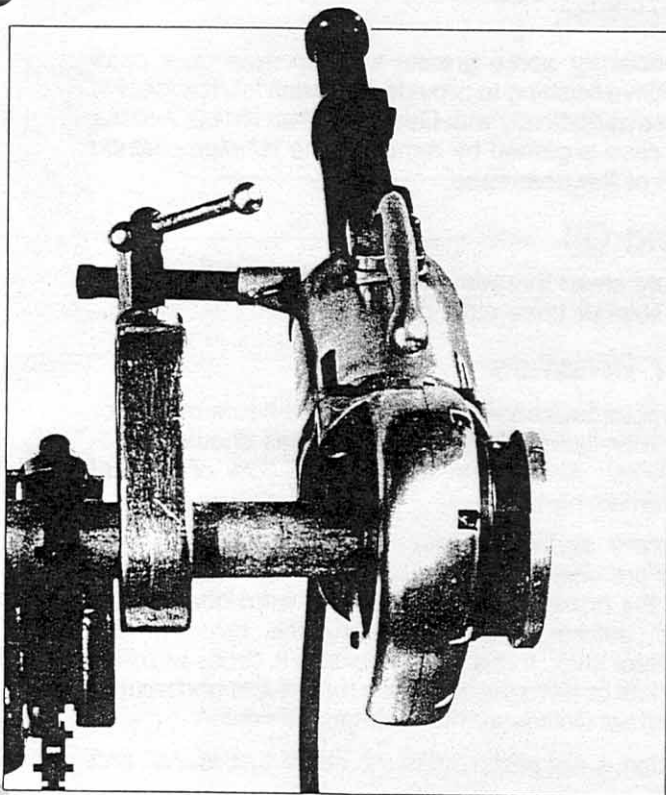

Figure 13 — Allow sufficient space for travel
10. Place the Collins Safvise or a 14" pipe wrench on the pipe as shown in Fig. 13. **NOTE:** Leave ample space between the Safvise or pipe wrench. This space must be greater than the length of thread to be cut.